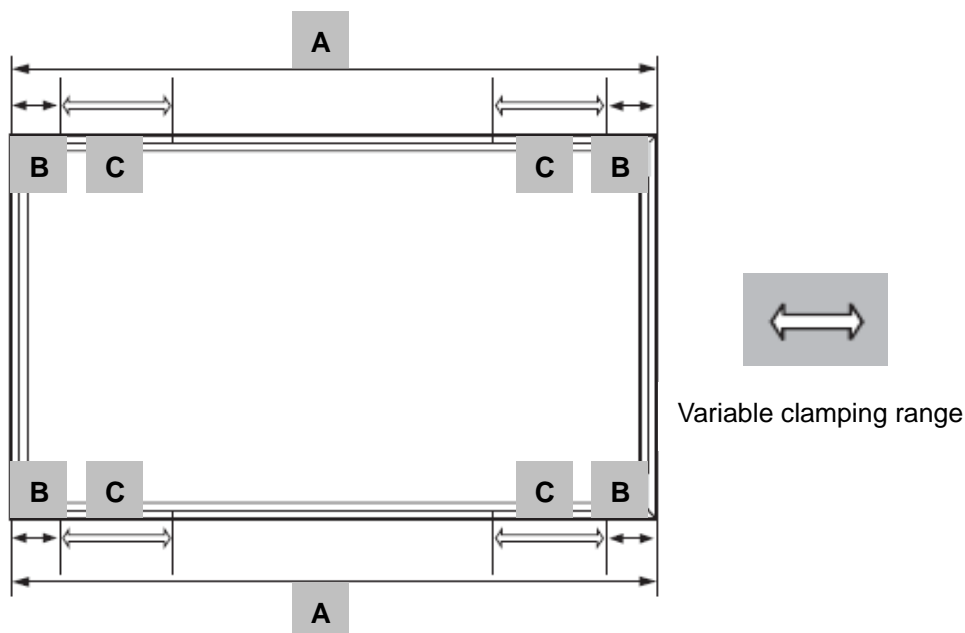

Figure 7. Permitted clamping locations with the type-2 clamp. For exact dimensions for a given module series, see table 1 (below).
1. The module may be clamped only in the permitted clamping areas on the long edge of the frame. Never clamp the short edge of the frame. For exact locations on the frame refer to figure 7 in conjunction with table 1 below.
Table 1. Use in conjunction with figure 7 to determine permitted clamping locations for a given module series for clamping with type-2 clamps.